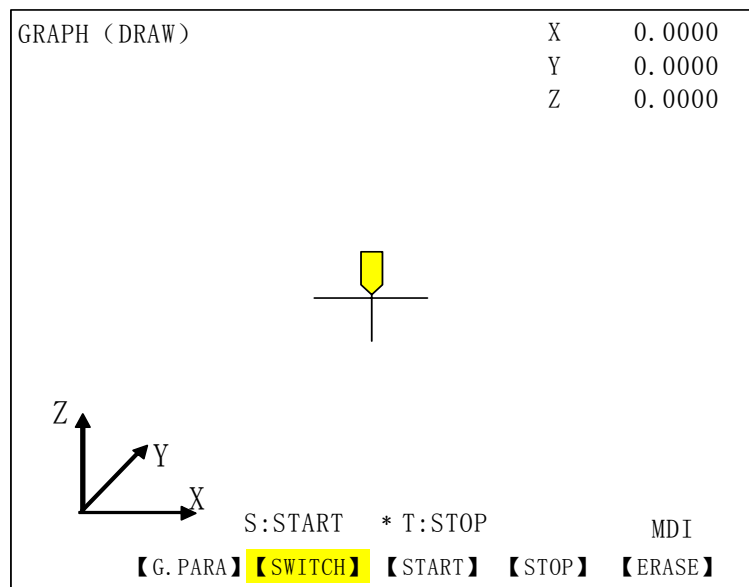

Fig. 3-6-2
2) Graphic page Press **【GRAPH】** soft key to enter this page (See Fig.3-6-2):